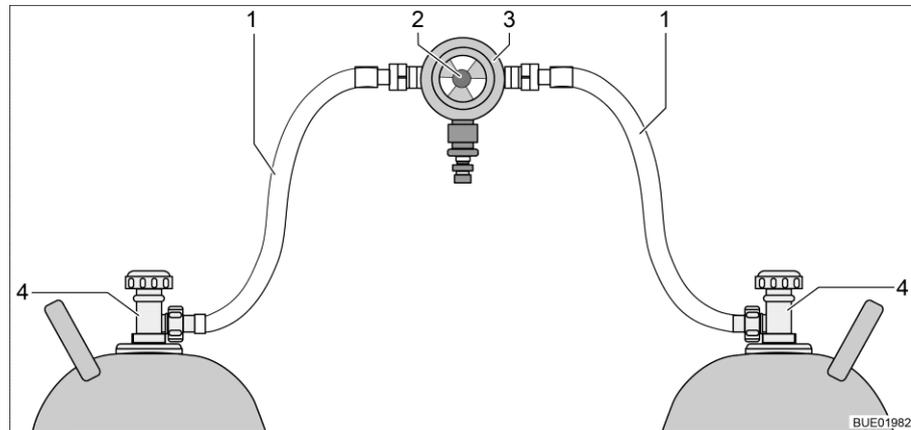
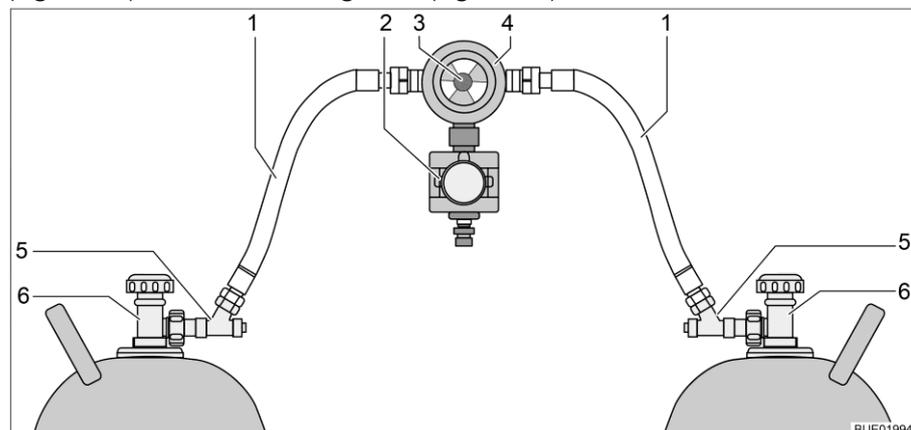

Fig. 173 Gas bottle switching facility
Fig. 174 Gas bottle switching facility with CPU
The gas bottle switching facility consists of a combined gas pressure regulator with reversing valve and indicator (Fig. 173,3). The gas bottle switching facility is installed between the two gas tubes (Fig. 173,1).
The gas bottle switching facility consists of a combined gas pressure regulator with reversing valve and indicator (Fig. 174,4), and an electrovalve (Fig. 174,2). The electrovalve blocks the gas supply to the vehicle in the event of a full braking, an accident, or an unusually great inclined position. The gas bottle switching facility is installed between the two gas tubes (Fig. 174,1) with hose break guards (Fig. 174,5).
Use the knob (Fig. 173,2 or Fig. 174,3) on the gas bottle switching facility to select which of the gas bottles is to be used as a primary bottle and which is to be used as a reserve bottle.
Only the electrical functions can be switched at the operating unit (Fig. 175). The regulator taps on the gas bottles (Fig. 173,4 or Fig. 174,6) must be opened and closed manually.
- Open the regulator taps of the gas bottles (Fig. 173,4 or Fig. 174,6).
- Press the hose break guards (Fig. 174,5) successively for 10 seconds.
- Use the knob (Fig. 173,2 or Fig. 174,3) on the switching facility to select the gas bottle which is to be the primary source of gas (primary bottle). Always turn the knob as far as it will go.
- Close the regulator taps of the gas bottles (Fig. 173,4 or Fig. 174,6).